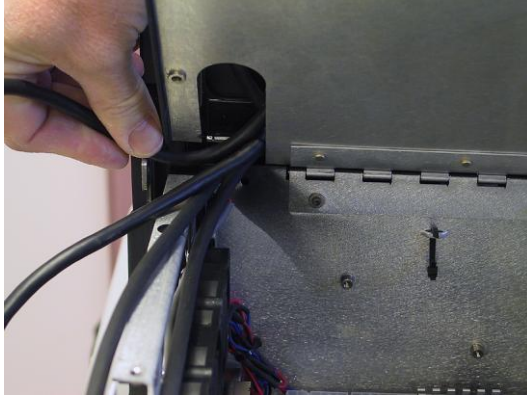

Figure 5-103
- 9) The center and left monitor power and video cables must be removed from the inner chassis cover cable channel as shown in Figure 5-103.